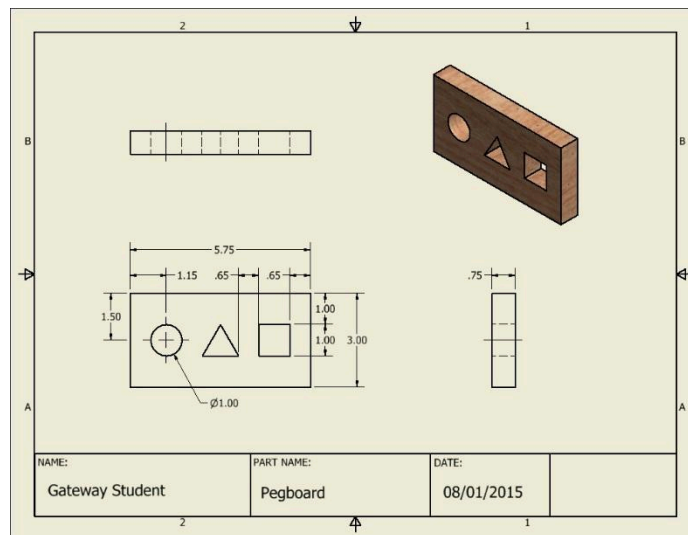

Figure 4
16. Select the Annotate tab on the ribbon. Using the Annotate panel tools, do your best to make your drawing match what is shown in Figure 4. Remember, the working drawing is used by someone to manufacturing the part, so accuracy is extremely important.